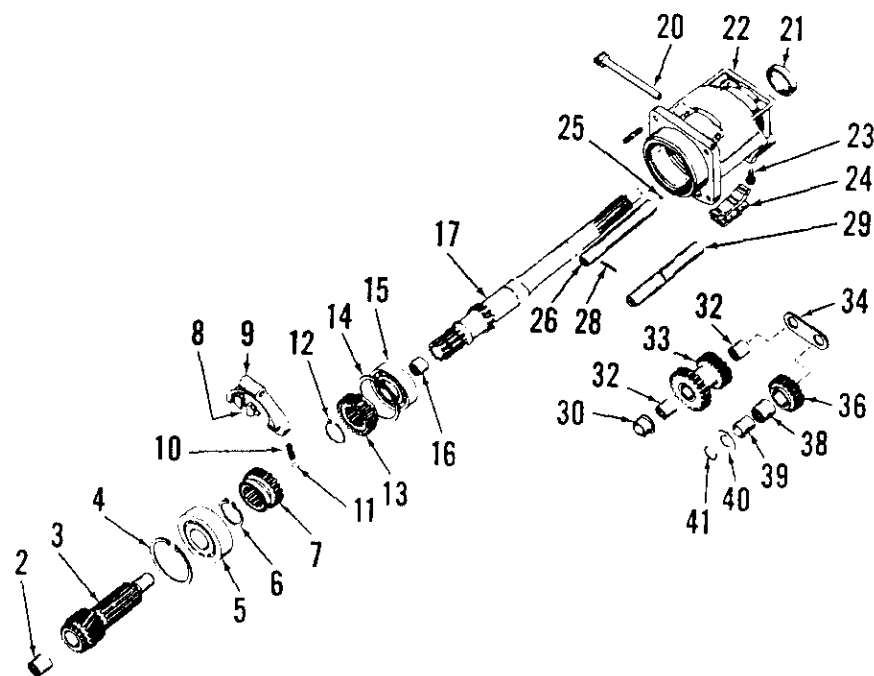

Fig. 113—Exploded view of the forward and reverse transmission which is available for the Series 364, 384, 424, 444, 2424, 2444 and B-414 tractors.
With unit removed, refer to Fig. 113, remove lockbolt (23), then drive roll pin (28) from countershaft (26) and remove countershaft, spacer (30) and cluster gear (33). The two needle bearings (32) can now be removed from cluster gear, if necessary.